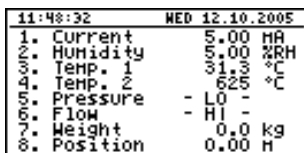

Fig. 6.10. "Channels list" mode (values)
- "Channels list" mode (Fig. 6.10, 6.11) enables the measurement results for all active measurement channels to be viewed in numeric or graphic (bar) form.